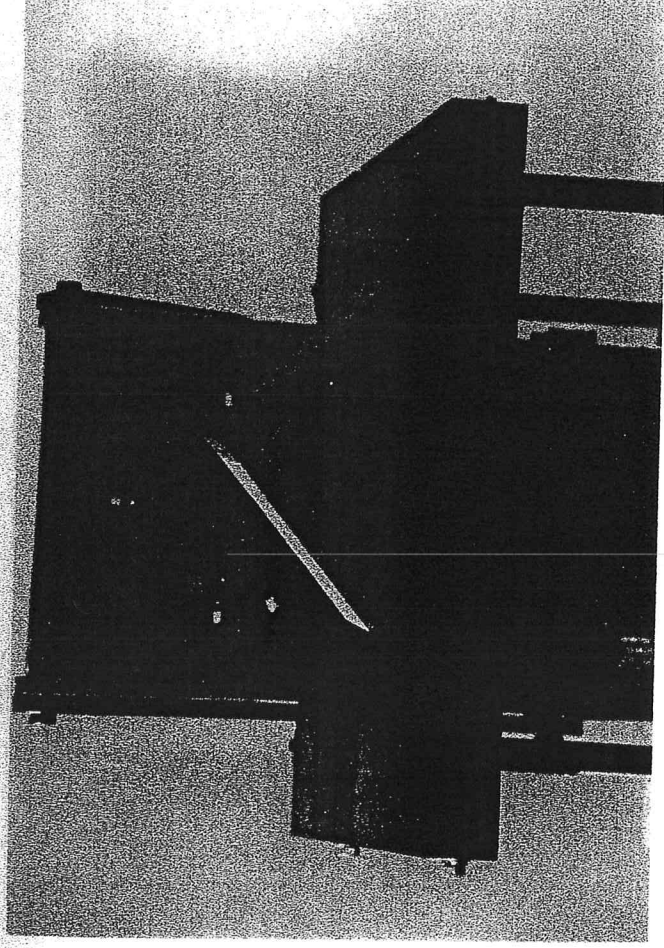

Fig. 7
5. Assemble joint and check fit. (fig. 7)